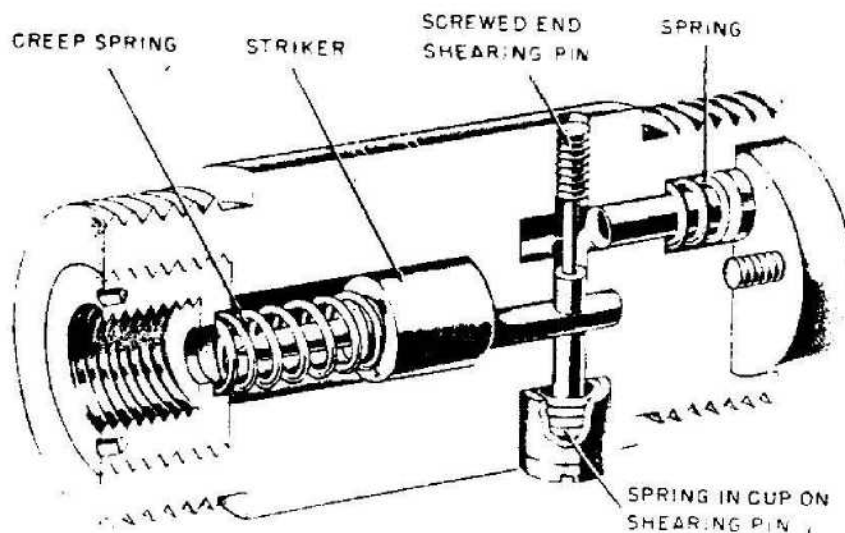

Figure 563—A. Z. 2492
**DESCRIPTION:** This fuze body is cylindrical with an external screw-thread at each end for assembly as the connecting piece between the tail unit and the body. A central recess contains the striker and creep spring and is closed at its enlarged front end by an aluminum magazine which is screwed in and contains a detonator and intermediary explosive. A transverse channel near the base contains a spring-loaded screwed shearing pin which engages in a recess in the stem of the striker. Another channel, containing a cutting pin with spring, is bored from the base of the body and communicates with the shearing pin channel at a point where the shearing pin is reduced in diameter. A circular plate, secured in a recess in the base of the body by two screws, retains the cutting pin in its channel. The base end of the cutting pin passes through a hole in the circular plate and is thus exposed to the pressure of the propellant gases. (See fig. 563.)